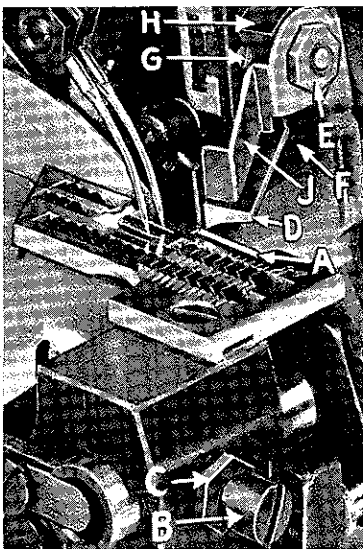

Fig. 13
Replace lower knife holder assembly. Lower knife (A, Fig. 13) should be set with cutting edge flush with throat plate surface. Adjustments are made with hexagonal head screw which holds lower knife. Lower knife is spring pressed against upper knife, so no lateral adjustment is necessary when width of trim is changed.
Replace upper knife assembly. Clamp upper knife (D, Fig. 13) in position, setting nut (E) to hold clamp (F) in its most clockwise position against upper knife. Upper knife chain guard (J) should be positioned so that the guarding section is approximately  $1/64$  inch behind the cutting edge and in contact with the top surface of the upper knife.